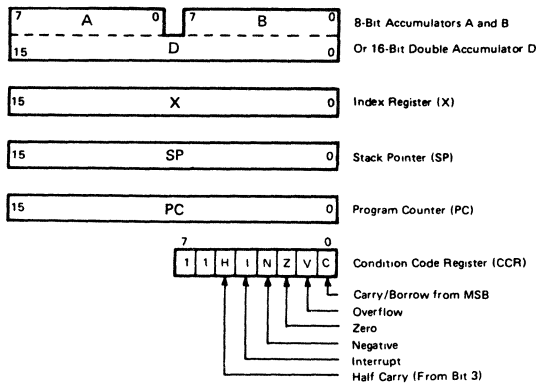

Figure 15 CPU Programming Model
- CPU Programming Model (Figure 15)
The programming model for the HD6803 is shown in Figure 15. The double (D) accumulator is physically the same as the Accumulator A concatenated with the Accumulator B so that any operation using accumulator D will destroy information in A and B.